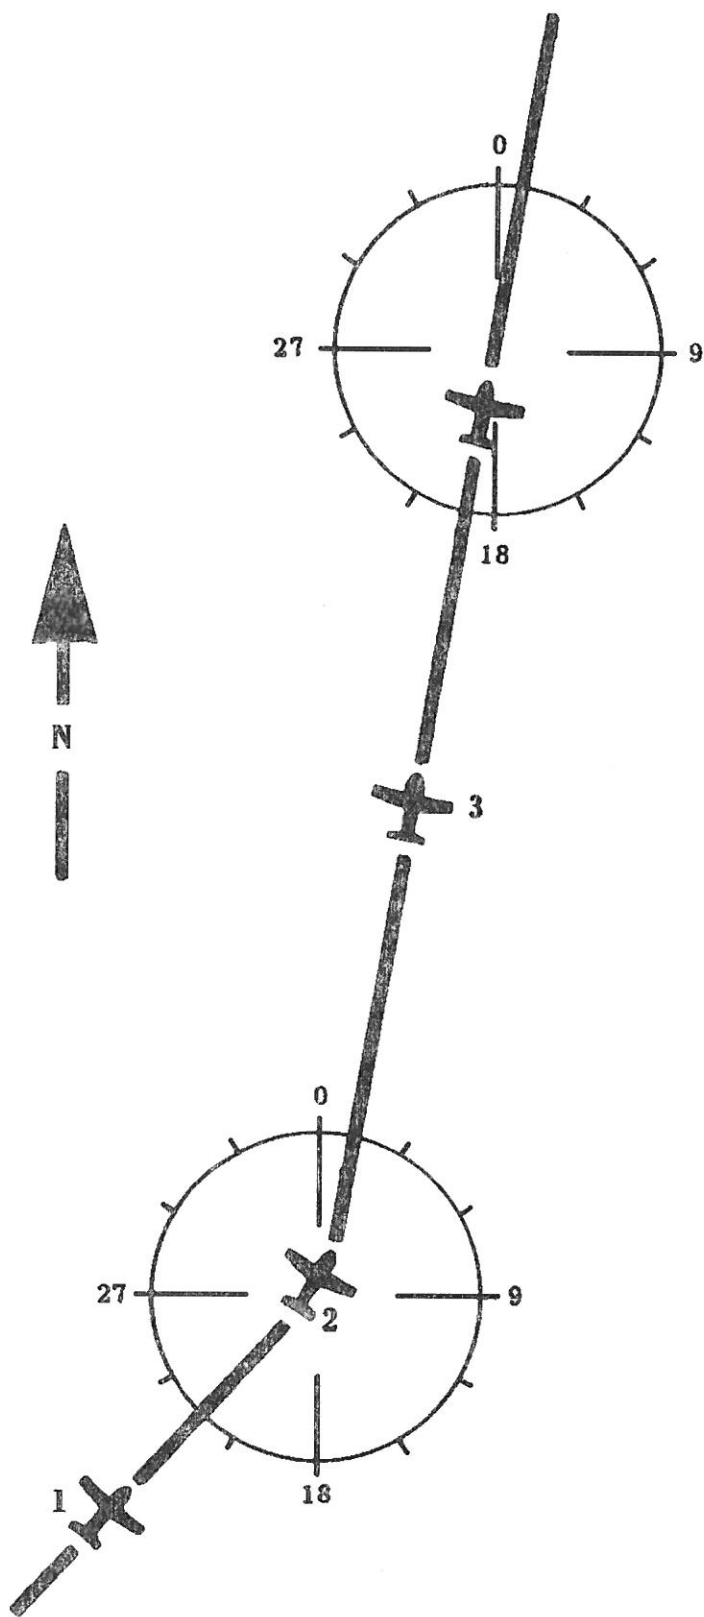

FIG. 12
**VOR NAVIGATION (See Fig. 12)****1. TO INTERCEPT**